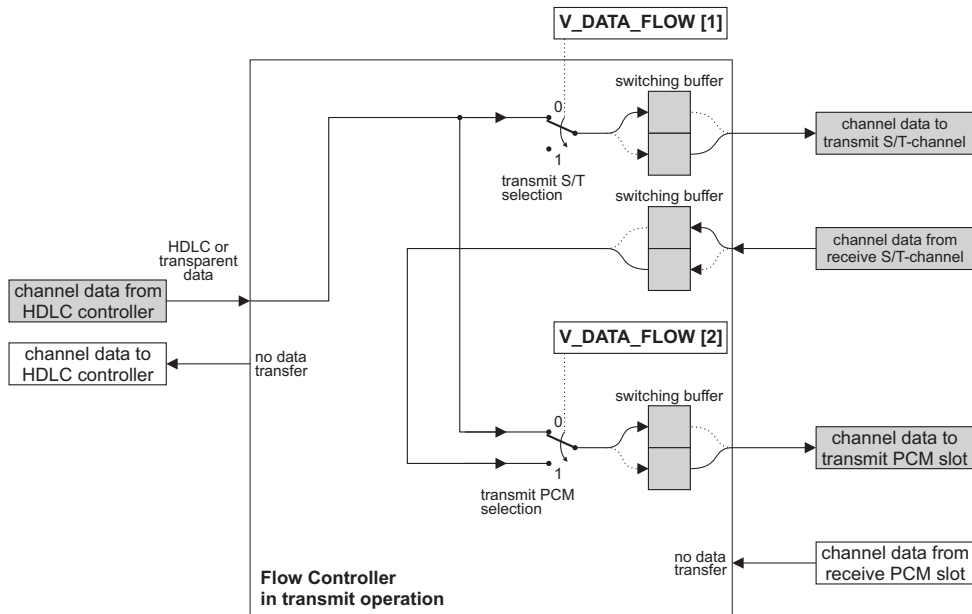

Figure 3.3: *The flow controller in transmit operation*
In transmit operation one HDLC or transparent byte is read and can be transmitted to the S/T and the PCM interface as shown in Figure 3.3. Furthermore, data can be transmitted from the S/T interface to the PCM interface. From the flow controller point of view, the switches select the source for outgoing data. The switches are controlled by the bitmap $V_DATA_FLOW[2..0]$ of the register $A_CON_HDLC[n, TX]$ where n is a FIFO number.
- The PCM interface can transmit a data byte which comes either from the FIFO or from the S/T interface. Bit $V_DATA_FLOW[2]$ selects the source for the PCM transmit slot (see Figure 3.3). The receiving S/T-channel has always the same number as the transmitting S/T-channel.